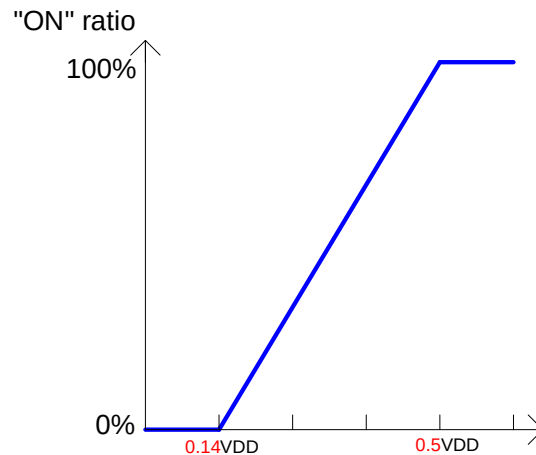

Figure.3
Applying a constant(DC) voltage to the PWM pin and the FD0255f will generate PWM pulses internally with the "ON" duty cycle ratio according to the diagram below(Figure.3), which can be utilized by the user to control the speed of the motor. The rotation speed will be higher if the voltage applied to the PWM pin is higher.